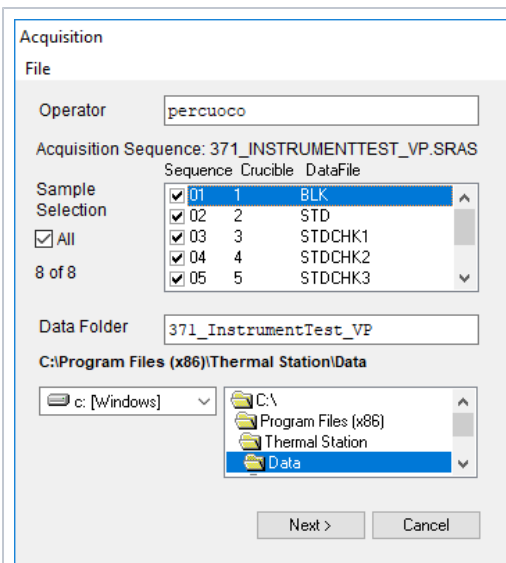

Figure 14. SRA > Acquisition.
1. Select **Main Menu > Acquisition** to open the Acquisition Setup screen (Figure 14).